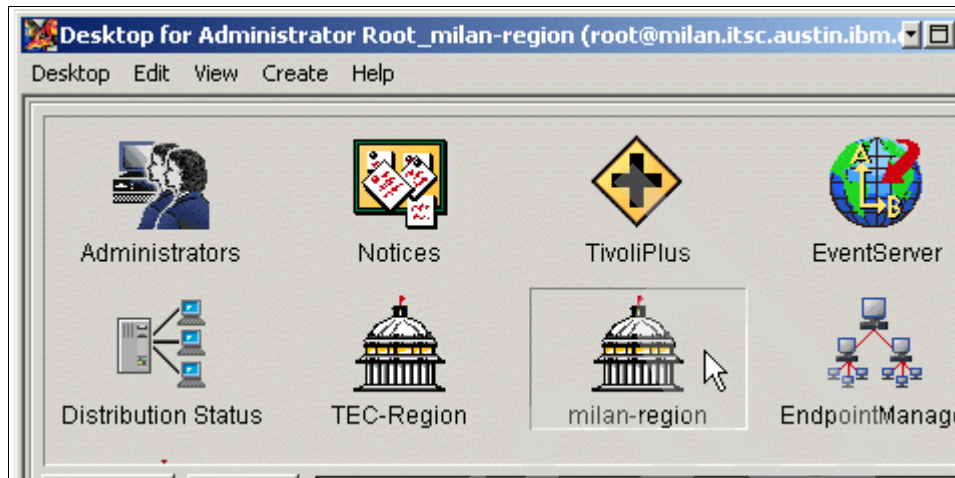

Figure 9-9 Opening the milan-region policy region
4. Double-click the policy region that should contain the profile manager. Your Tivoli Framework administrator can provide guidance on the appropriate policy region. In the lab for this book, we used the milan-region policy region as shown in Figure 9-9 on page 441.